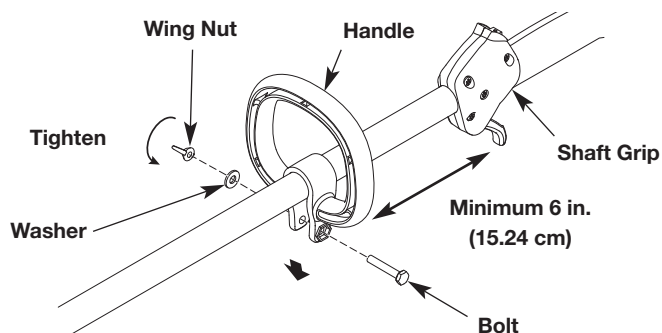

Fig. 3
1. Push the handle down onto the shaft housing (Fig. 3). The hex bolt hole in the handle should be to the left.
2. Insert the bolt into the hex bolt hole and push it through (Fig. 3). Place the washer onto the bolt. Screw the wing nut onto the bolt, but do not tighten the wing nut completely.
3. While holding the unit in the operating position (Fig. 8), move the handle to the location that provides the best grip. Place it a minimum of 6 inches (15.24 cm) from the end of the shaft grip (Fig. 3).
1. Loosen the wing nut (Fig. 3).
2. While holding the unit in the operating position (Fig. 8), move the handle to the location that provides the best grip. Place it a minimum of 6 inches (15.24 cm) from the end of the shaft grip (Fig. 3).